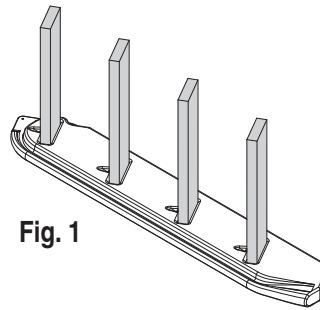

Fig. 1
2. Insert three 2" x 6" x 23½" standard steps into the remaining holes until they are flush with the outside of the side rail. (Fig. 1)